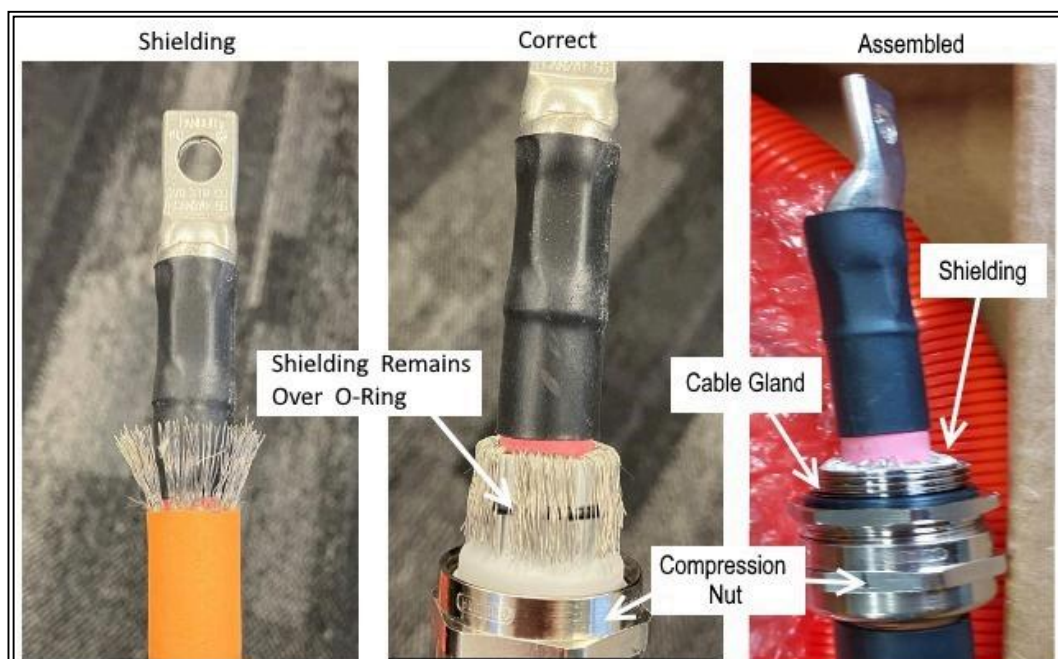

Figure 8 :DC Cable Shield Position
3. Pull back the shielding over the tapered compression sleeve and insert in the cable gland and hand tighten the compression nut as shown in Figure 8 .
- 4 . Measure from the cable gland to the center of the eyelet terminal hole as shown below Figure8